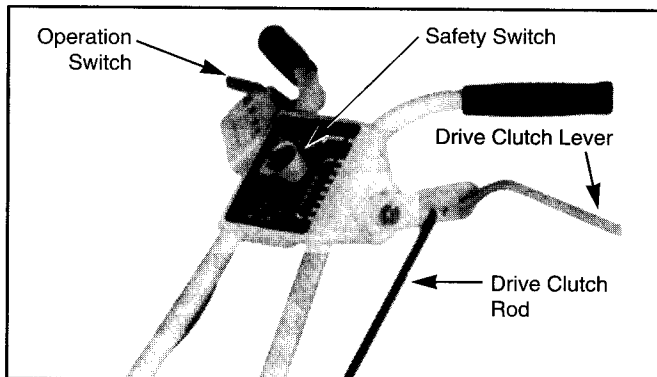

Fig. 4
2. For safety there are two switches, a safety switch and the operation or main switch. See Fig. 4.